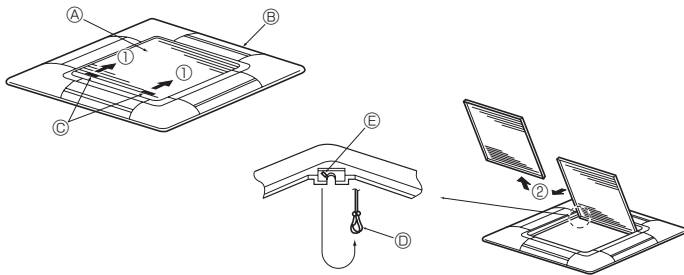
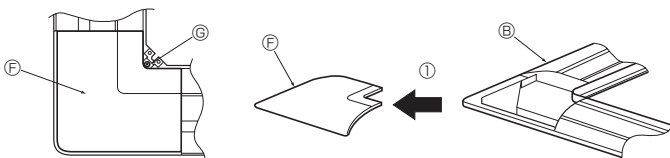

Fig. 7-3
Fig. 7-4
7.2.1. Removing the intake grille (Fig. 7-3)
- Slide the levers in the direction indicated by the arrow ① to open the intake grille.
- With the intake grille in the "open" position, remove the hinge of the intake grille from the grille as indicated by the arrow ②.
7.2.2. Removing the corner panel (Fig. 7-4)
- Remove the screw from the corner of the corner panel. Slide the corner panel as indicated by the arrow ① to remove the corner panel.